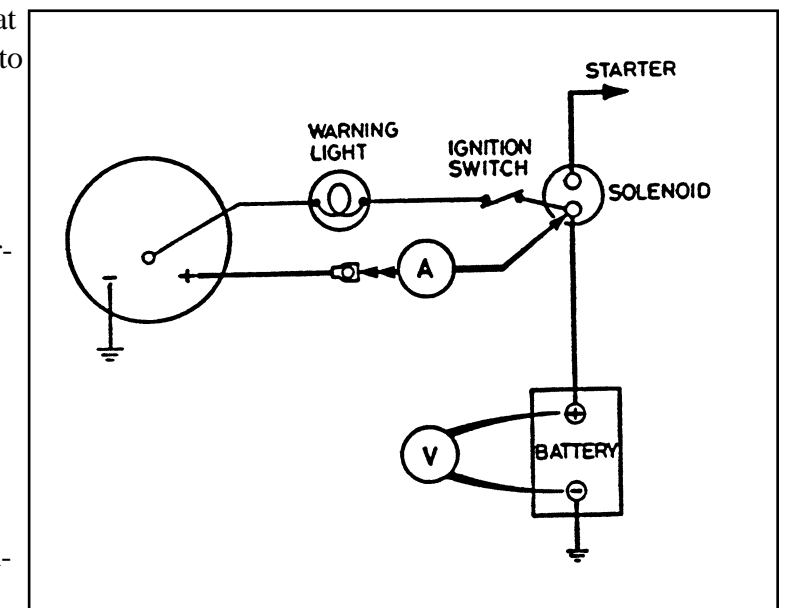

Figure 7
1. Connect a multimeter (V1) between the battery insulated terminal and the alternator main output terminal. See Figure 7.